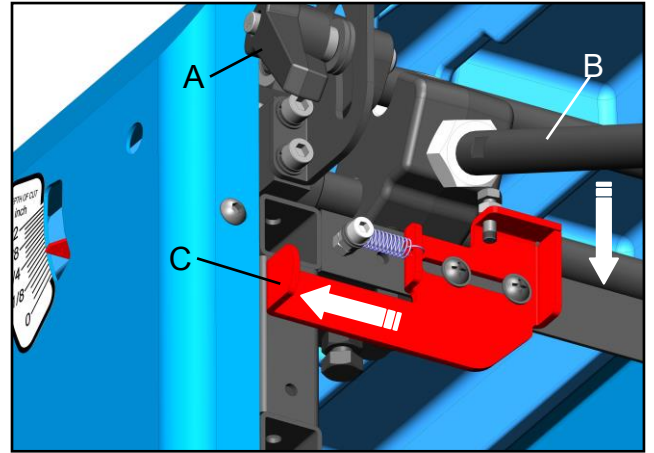

Fig. 9
The depth of cut is indicated by the scale located on the front of the jointer base as shown in Fig.9.
1. Loosen the in-feed table height locking handle (A), Fig. 9.